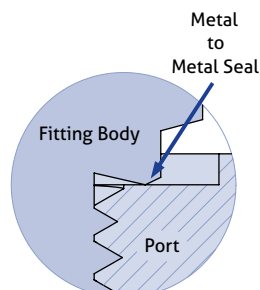

Figure 20:
2. Cutting face metal seal between the fitting and the spot face. (Figure 20)